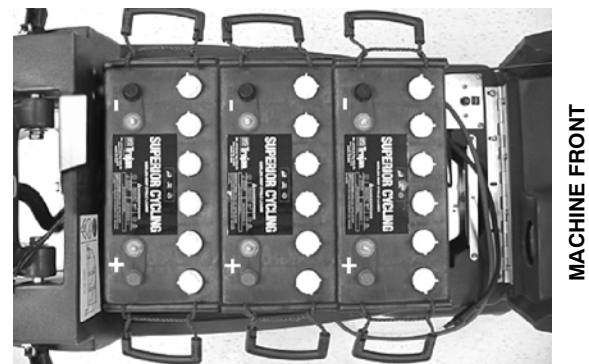

FIG. 2
4. Carefully install the batteries into the battery tray with the battery posts arranged as shown. Then place the battery carrying handles on top of the batteries to allow clearance for battery hood (Figure 2).